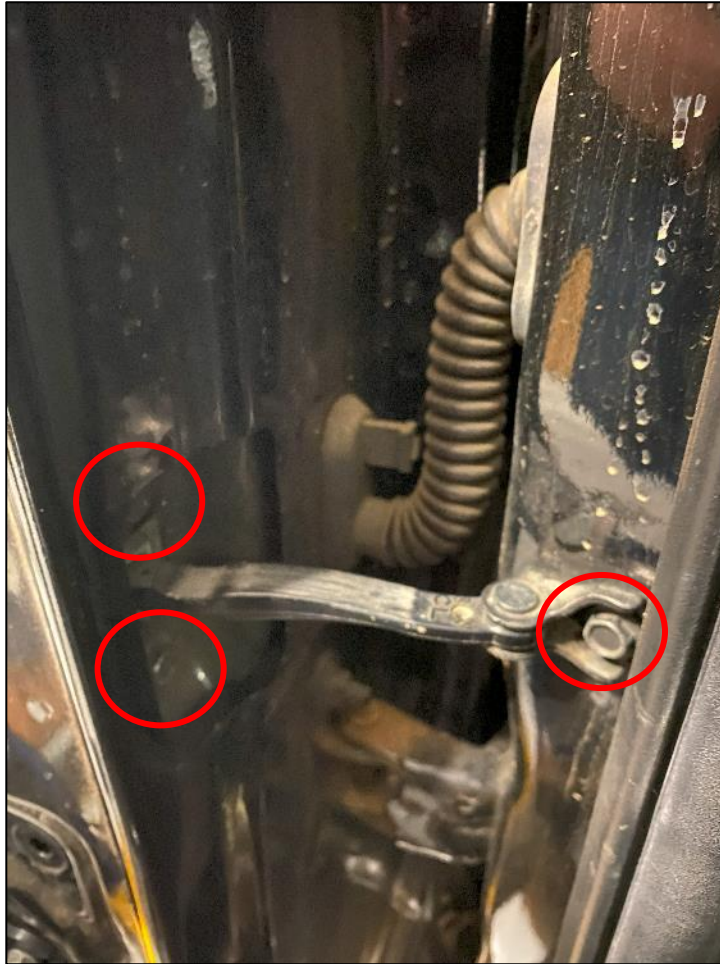

Figure 101
9. Remove the (3) three 10mm Bolts that secure the Check Link to the vehicle. *Figure 101.*